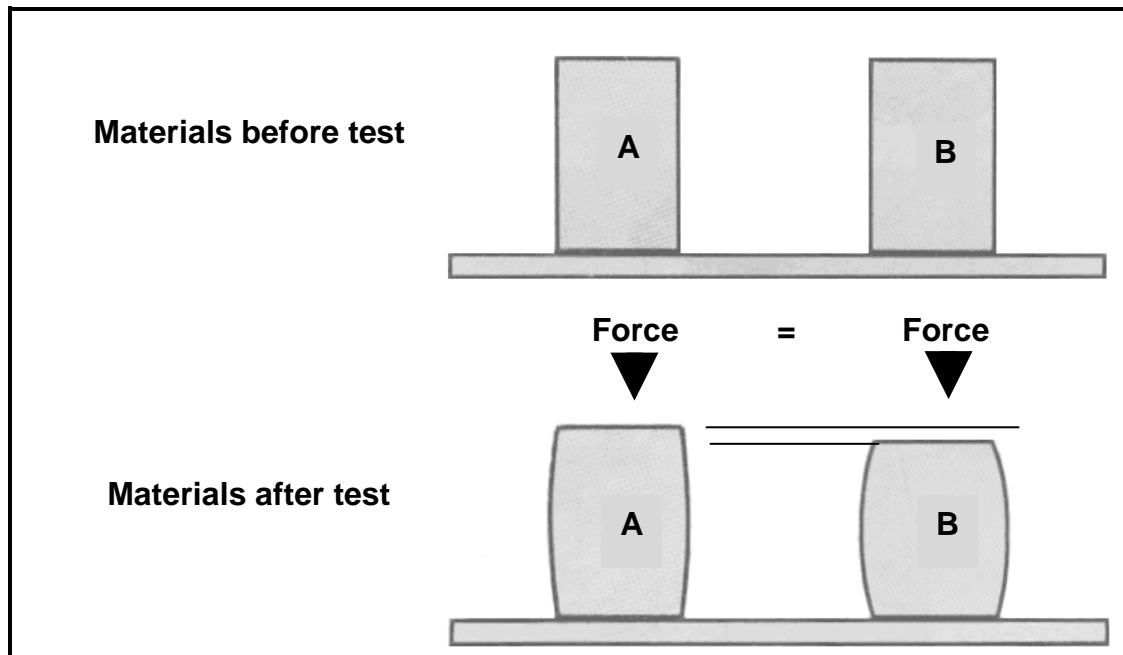

FIGURE 3.1
3.2 FIGURE 3.1 below shows the results of a compressive strength test on two materials, A and B.